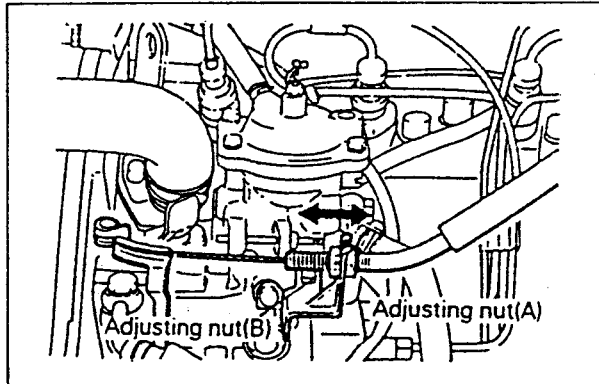

Fig. 15.46. — Throttle cable adjustment.
The engine must be at operating temperature, with the idle speed correctly adjusted, before the throttle cable can be adjusted. The adjusting point is shown in Fig. 15.46 from which can be seen that two nuts are used to move the cable in its bracket. First slacken the two nuts so that the throttle lever is free. Now turn the adjusting nut (A) until the throttle lever just starts to move. From this position turn the nut backwards by $\frac{1}{2}$ of a turn and tighten the nut (B). Operate the accelerator pedal and check that the throttle lever can travel between "fully closed" and "fully open."